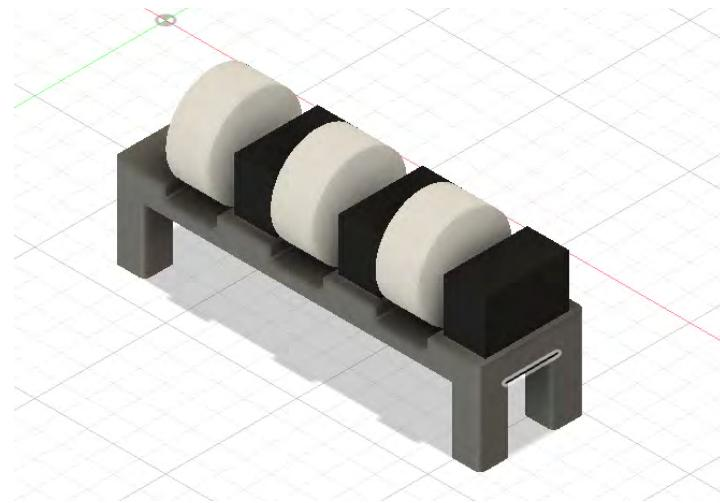

Fig. 24 (Scratch and Sniff Servo mechanism array)
- Servos- In order for the scratch and sniff tab system to work there must be servos involved. These servos will be in an array of three and will be tasked with rotating the reels that the scratch and sniff tabs are attached to. (Fig. 24) below shows a potential servo configuration in the Sentinel.